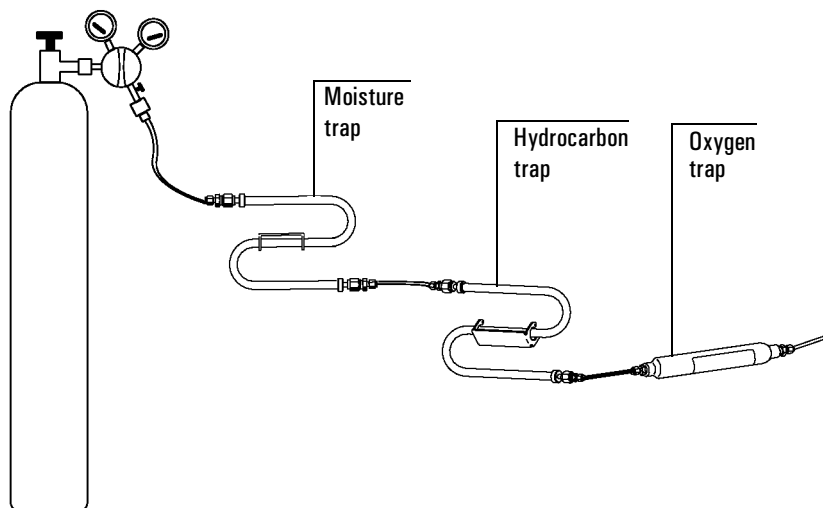

Figure 11. Plumbing diagram
1. Determine where you will install the trap in your supply tubing line. See Figure 11 for the recommended trap order.